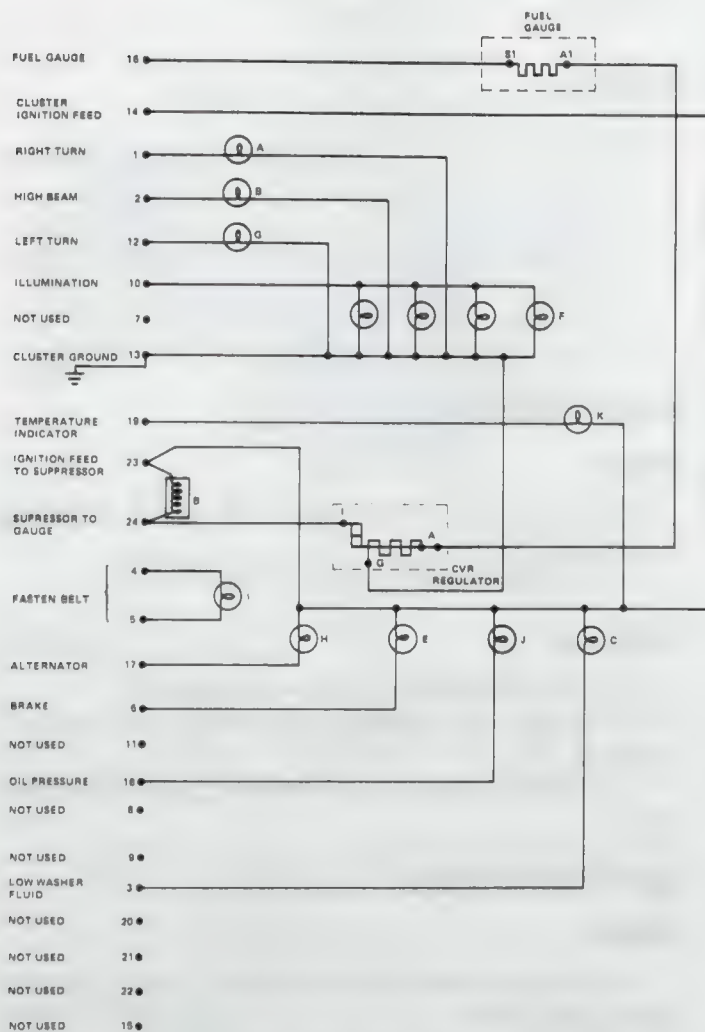

Fig. 3C-9 Instrument Cluster Circuitry
- (1) Disconnect battery negative cable.
- (2) Remove cluster bezel with a straight, firm pull (fig. 3C-2).
- (3) Remove radio control knobs and nuts, if equipped.
- (4) Remove radio overlay.
- (5) Disconnect cigarette lighter wiring.
- (6) Disconnect clock wiring.
- (7) Remove clock attaching screws and remove clock from radio overlay.
- (1) Install clock on radio overlay.
- (2) Connect clock and lighter wiring.
- (3) Install radio overlay (fig. 3C-10).
- (4) Install cluster bezel.
- (5) Install radio nuts and control knobs, if equipped.
- (6) Connect battery negative cable.
- (7) Reset clock.